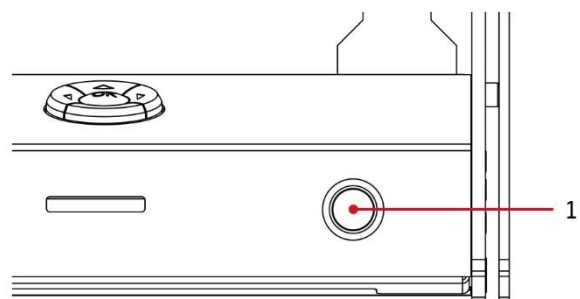

Fig. 29. POWER button location (1)
3. To start the device press POWER button on the right side of the main panel (fig. 29).